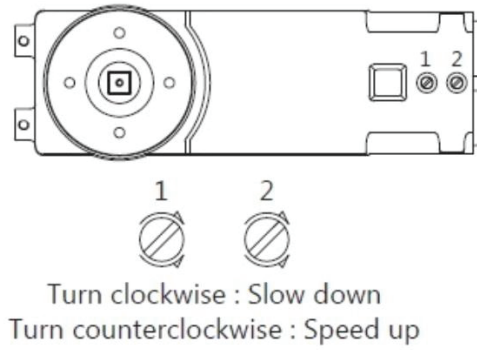

Figure 8
6. With a flat blade screwdriver adjust the door closer closing speed using screw 1 and latching speeds using screw 2. See Figure 8